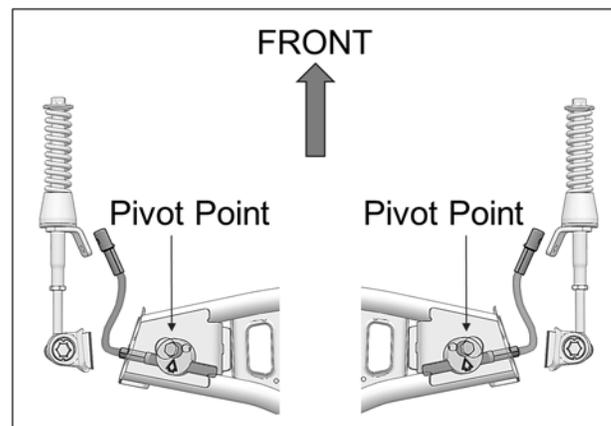

Fig. 27
13. Make sure aluminum disk pivot point is installed in front of steering limiter cable. See Fig. 27